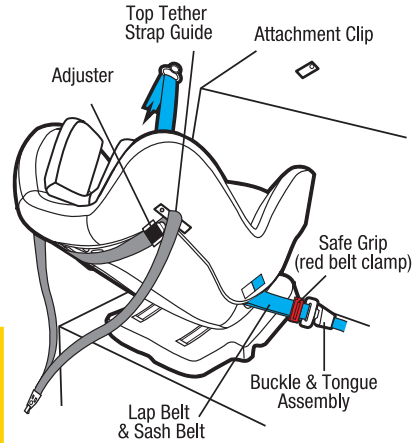

Figure 6
Step 6: Locate the adjuster at the side of the restraint and secure using the top tether strap guide (refer Figure 6 & 7).